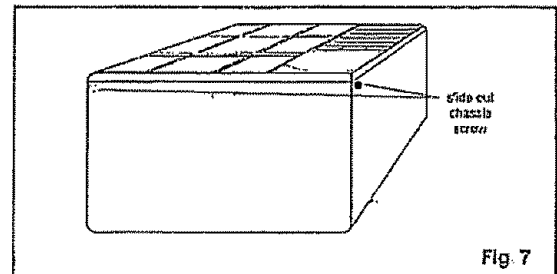

Fig. 7
- Remove the two phillips screws (lower left/right side of cabinet) securing the slide-out-chassis to the cabinet. Fig.7
- Reinstall (slide-out-chassis) security screws removed earlier from the (lower left/right) side of the cabinet. Fig. 7